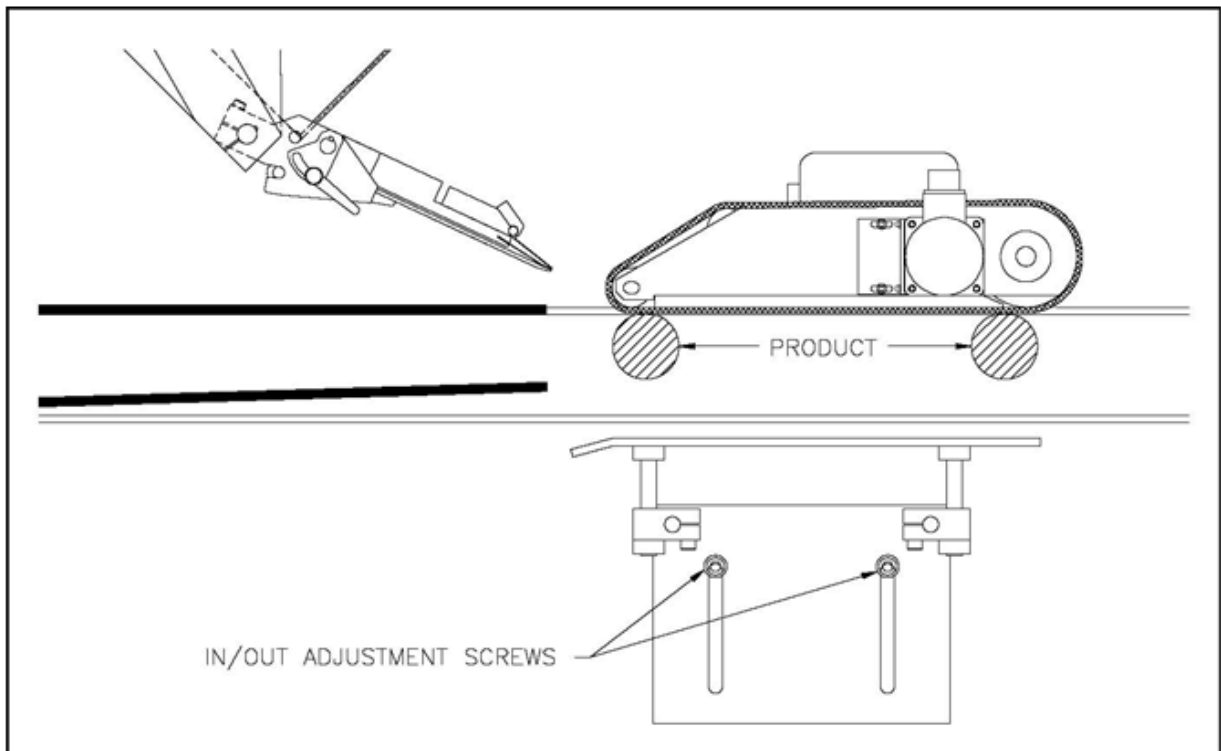

Figure 50 Pressure Bar In/Out Position
1. If necessary, loosen the mounting screws to position the pressure bar as shown in Figure 50. Do not fully tighten the screws at this time.
(Refer to Figure 50).
3. Place a product at each end of the wrap belt. Refer to Figure 50.